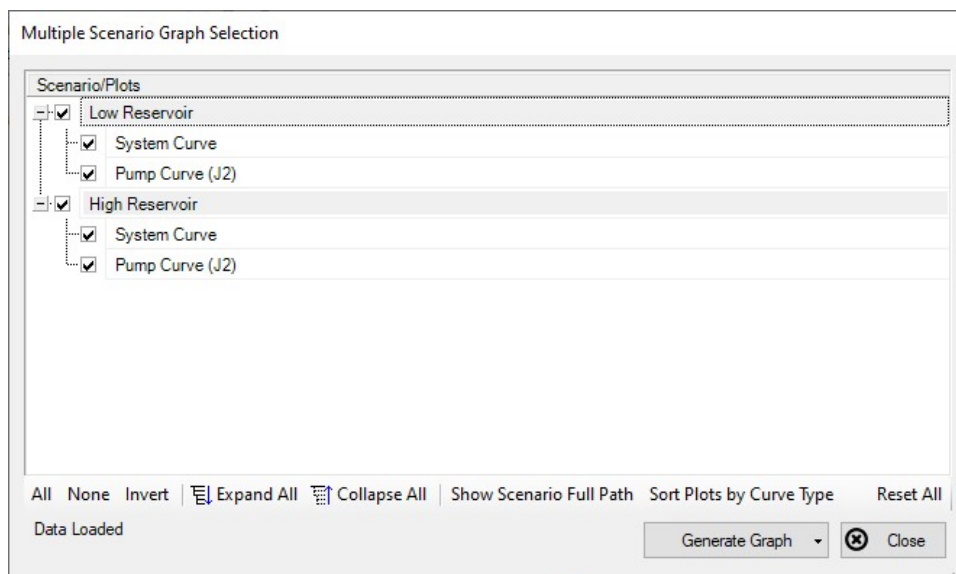

Figure 4: Multiple Scenario Graph Selection
6. In the Multiple Scenario Graph Selection window select which curves you would like to include in the graph, then choose Generate Graph as is shown in Figure 4.